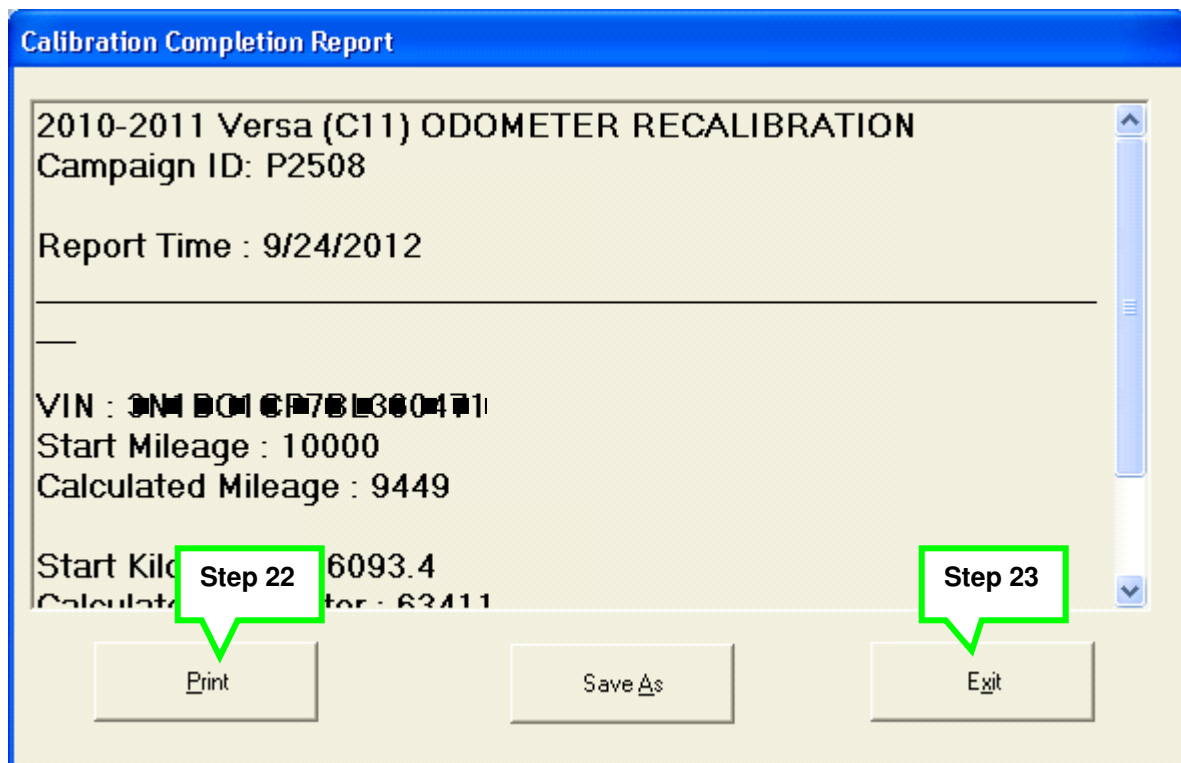

Figure 1n
21. After waiting 2 minutes, the "Calibration Completion Report" will display (Figure 1n).
7. Make sure the mileage on the odometer matches the Calibrated Mileage on the Calibration Completion Report (see example previous page – Figure 1n).